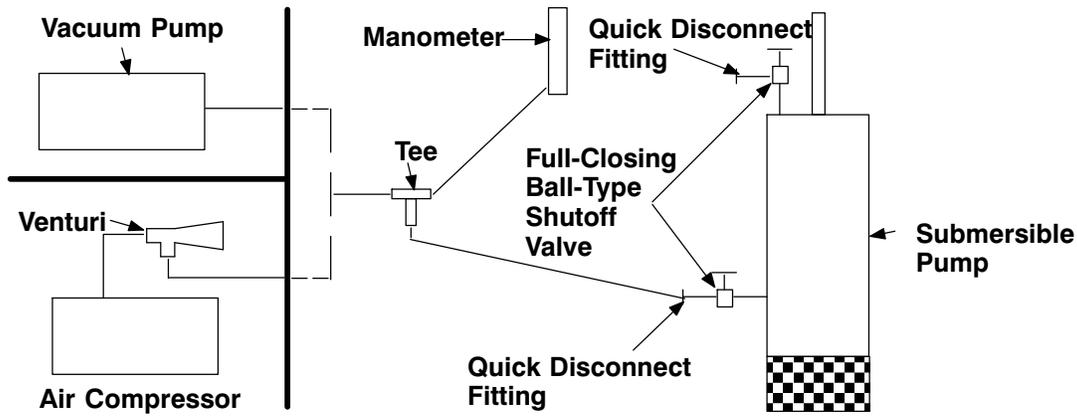

Figure C-10. Vacuum Test System
It is recommended that a vacuum pump be used to draw the vacuum on the cavities. If a vacuum pump is not available, a compressor/venturi system may be used, see Figure C-10.
See Figure C-10 and connect the vacuum pump or compressor/venturi system directly to the pump at the hole for the seal cavity drain plug (26).
Connect the vacuum pump or compressor/venturi system to the pump as shown in Figure C-10.